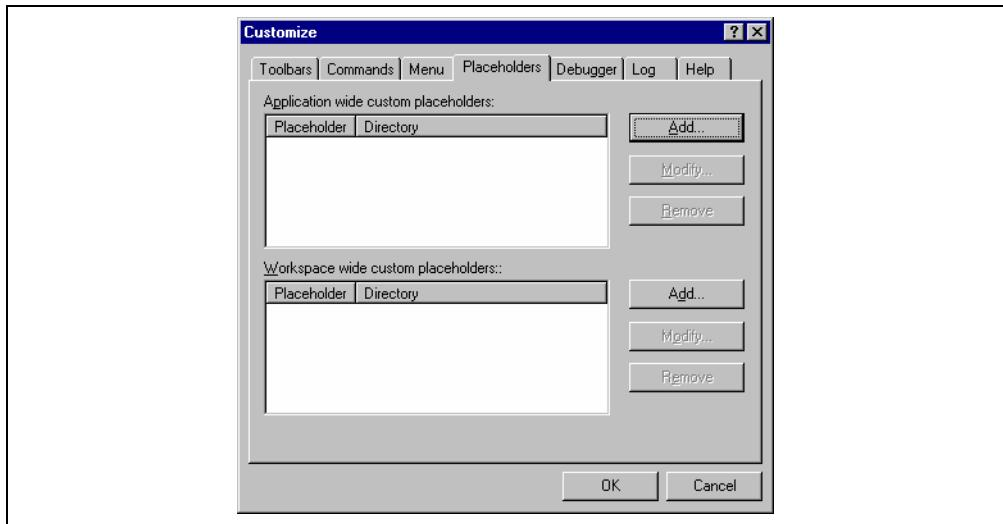

Figure 6.14: Customize Dialog Placeholder Tab
1. Select [Tools->Customize...]. The dialog shown in figure 6.1 will be displayed. Select the “Placeholders” tab (figure 6.14).